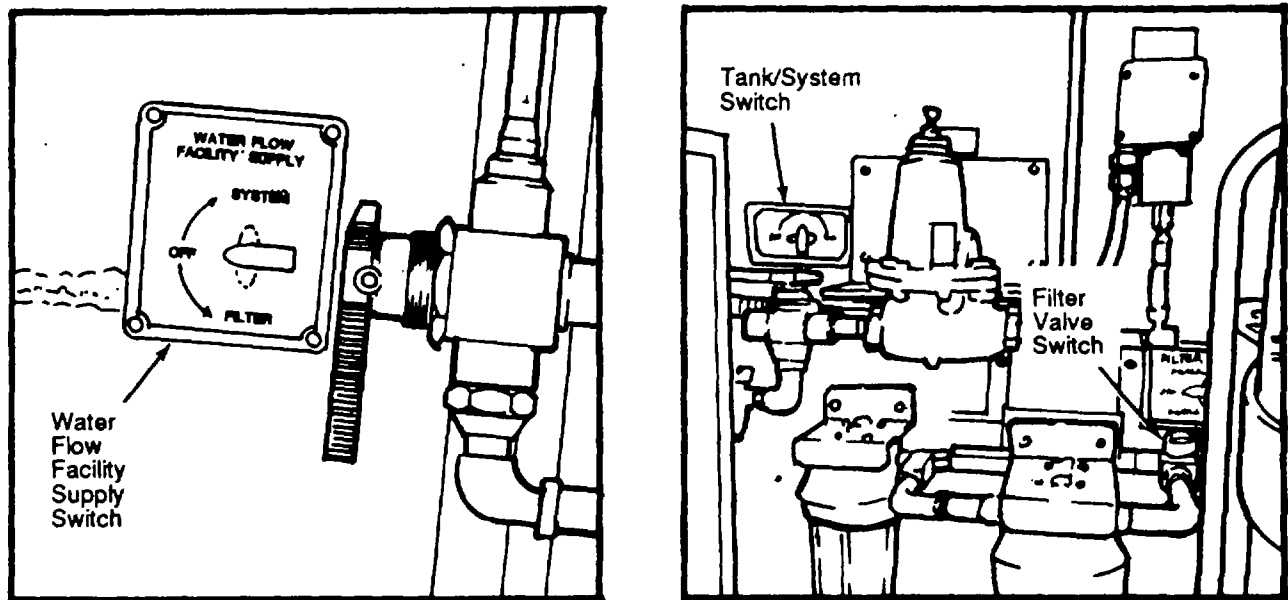

Figure 2-12. Water System Switches
(4) Ensure the "TANK/SYSTEM" Switch (Figure 2-12) is in the "TANK" position, the "WATER FLOW FACILITY SUPPLY" Switch is in the "SYSTEM" position, and the "FILTER VALVE" Switch is in the "OFF" position.
- (1) Hook up the garden hose as outlined in paragraph 2-9a above; however, switch the "WATER FLOW FACILITY SUPPLY" to "FILTER" and switch the "FILTER VALVE" from "off" to "FILTER No. 1" (Figure 2-12).
- (2) Proceed to fill the water tank as described in paragraph 2-9a.